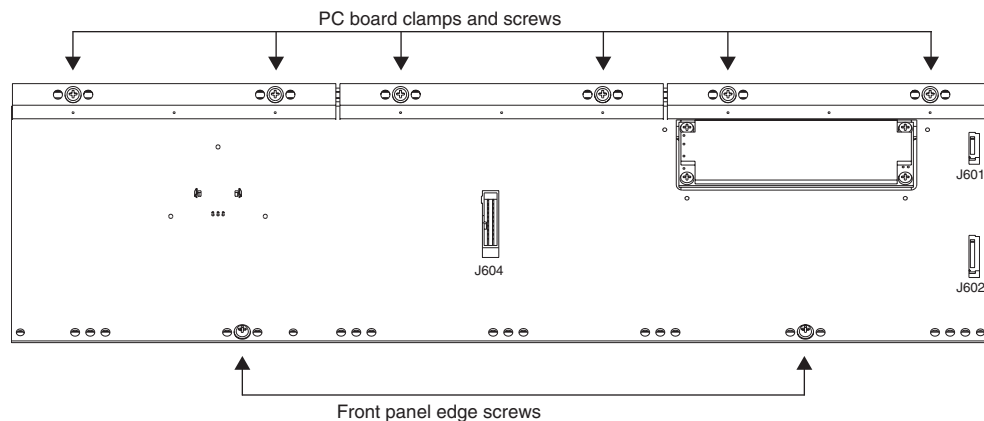

Figure 4-8 Front Panel Board, screw locations
- Five of the screws that secure the right enclosure support wall also secure the front panel edge of the Front Panel Board. You have already removed the enclosure support wall, but two screws remain securing this edge of the board. See Figure 4-8, and remove the two remaining screws.
2. Align the center screw holes of the three-hole groupings on the front panel edge of the board with the thread marks in the extrusion and install the two screws that secure the front panel edge. See Figure 4-8.